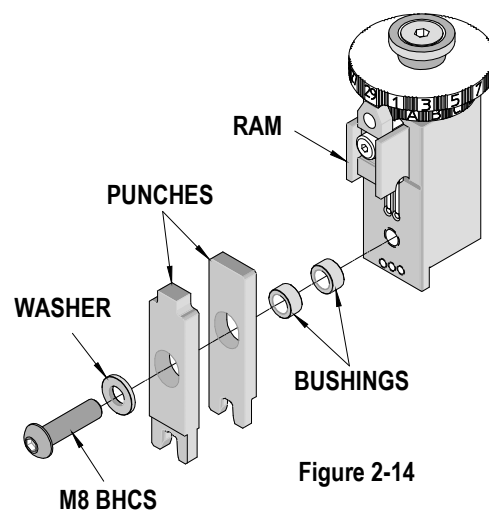

Figure 2-14
4. Loosen and unscrew the M8 BHCS. See Figure 2-14.